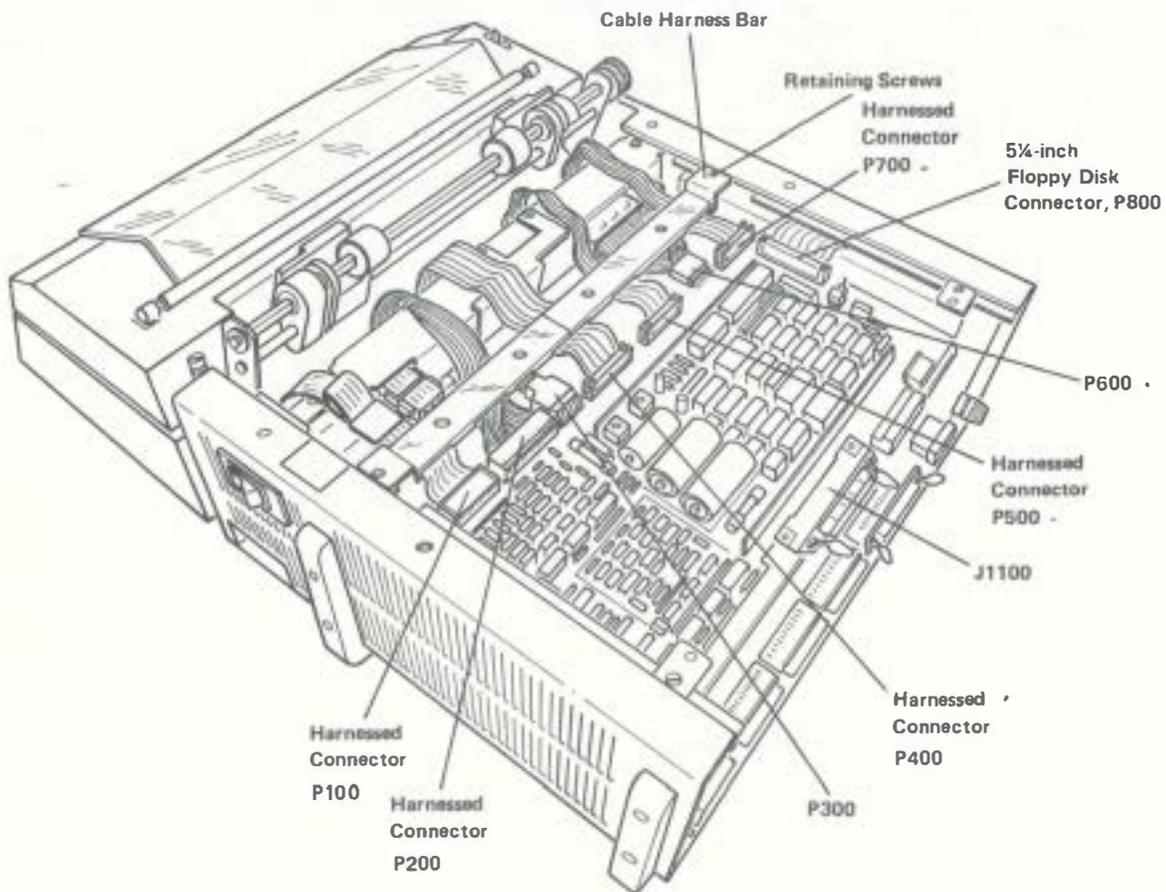

Figure 5-6. Processor Unit (Top View)
2. Disconnect all the harnessed connectors and the 5¼" diskette connector from the printer/plotter control board. See Figure 5-6.
2. Reconnect all the harnessed connectors and the 5¼" diskette connector to the printer/plotter control board. See Figure 5-6.
2. Disconnect all the harnessed connectors from the printer/plotter control board. See Figure 5-6.
3. Remove the two cable harness retaining screws and place the cable harness out of the way toward the front of the processor unit and over the tractor bar. See Figure 5-6.
4. Position the cable harness clamp assembly over its mounting holes and secure it with the two screws. See Figure 5-6.